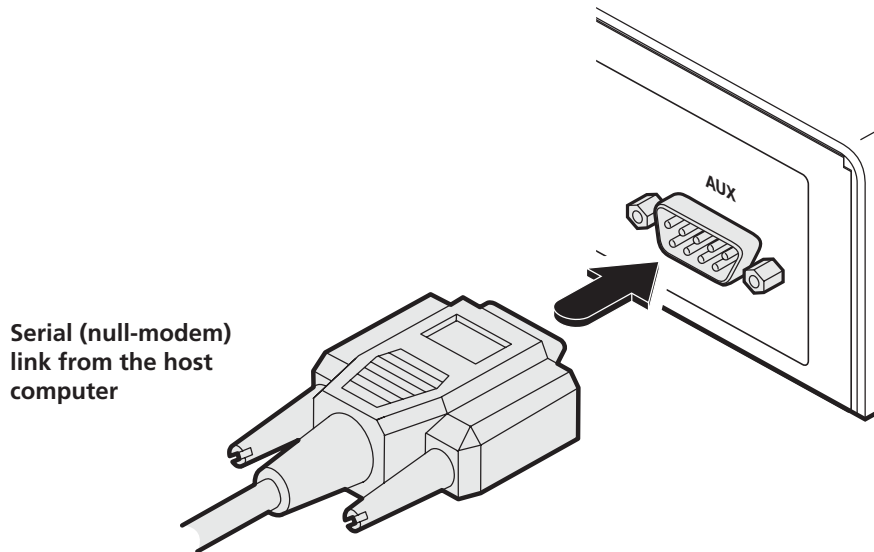

Figure 3-6. Connecting the serial link cable to Local unit socket.
- 2 Connect a suitable serial 'null-modem' cable (see Appendix E for pin-out) between a vacant serial port on your computer and the AUX port on the right hand side of the ServSwitch Agility rear panel. See Figure 3-6.